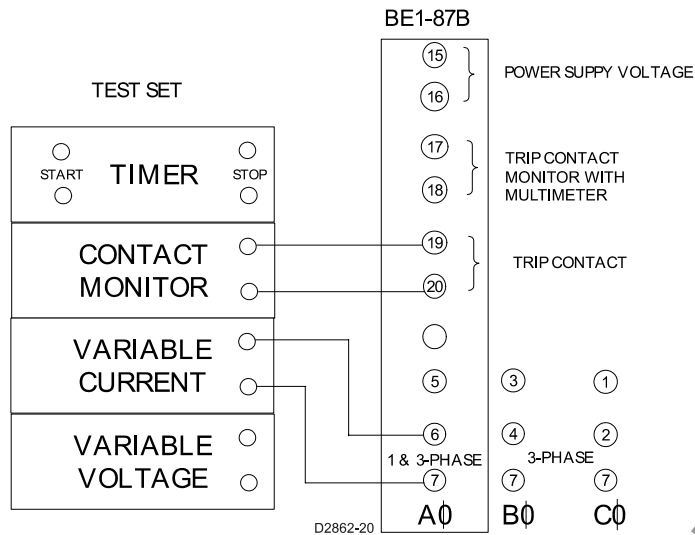

Figure 5-5. Pickup Current Test Setup
| Figure 5-5. Pickup Current Test Setup | 5-6 |
1. Connect the test circuit as shown in Figure 5-5.